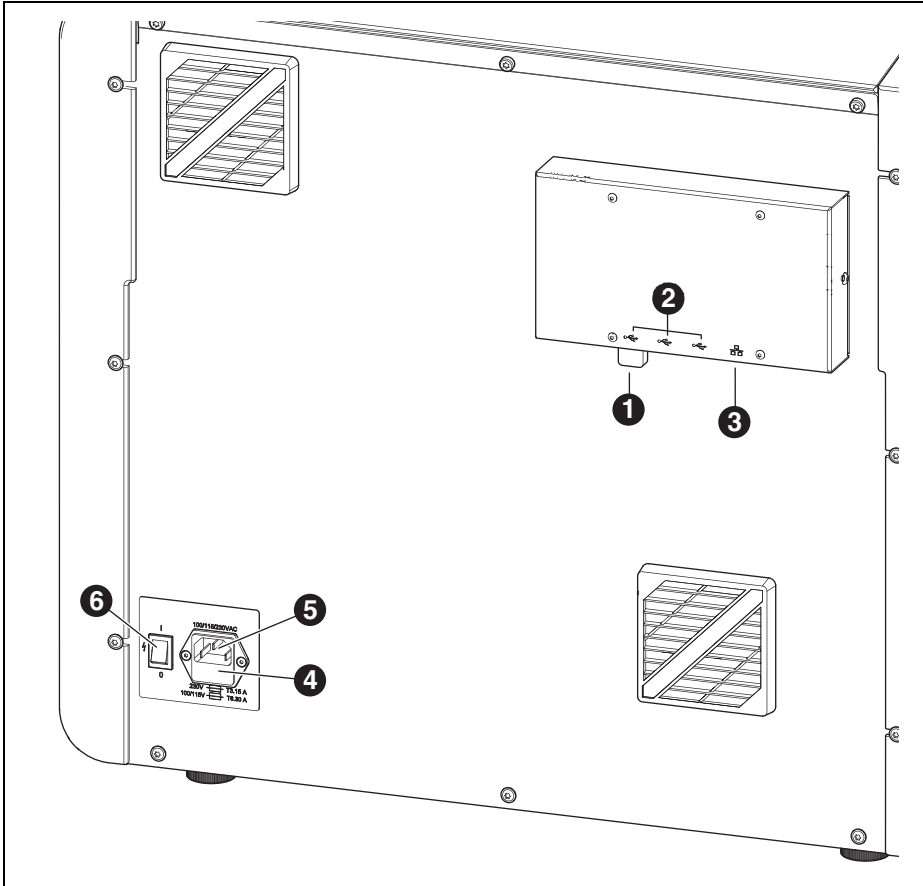

Fig. 3 Machine overview, rear
- ▷ Connect the machine to the power supply connection ([5] in Fig. 3) using the original mains cable (delivery scope).
When the machine is being connected via the USB interface ([2] in figure 3):
- ▷ Connect the Ethernet interface ([3] in Fig. 3) of the milling machine with the PC or with the network using a network cable.
- ▷ Plug the WLAN stick into a USB port on the rear of the machine ([1] in figure 3).